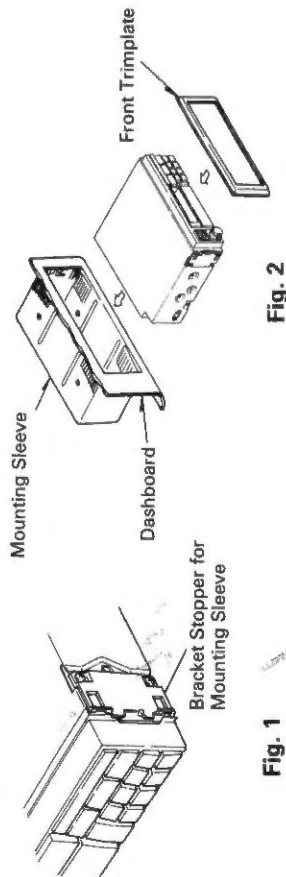

Fig. 1
1. The Bracket Stopper has already been mounted. (Fig. 1)